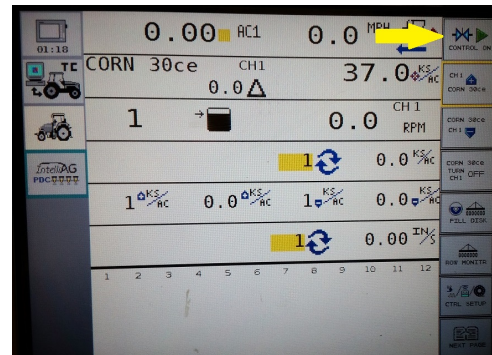

Figure 65
Step 6. Turn **Control On**. (Figure 65)